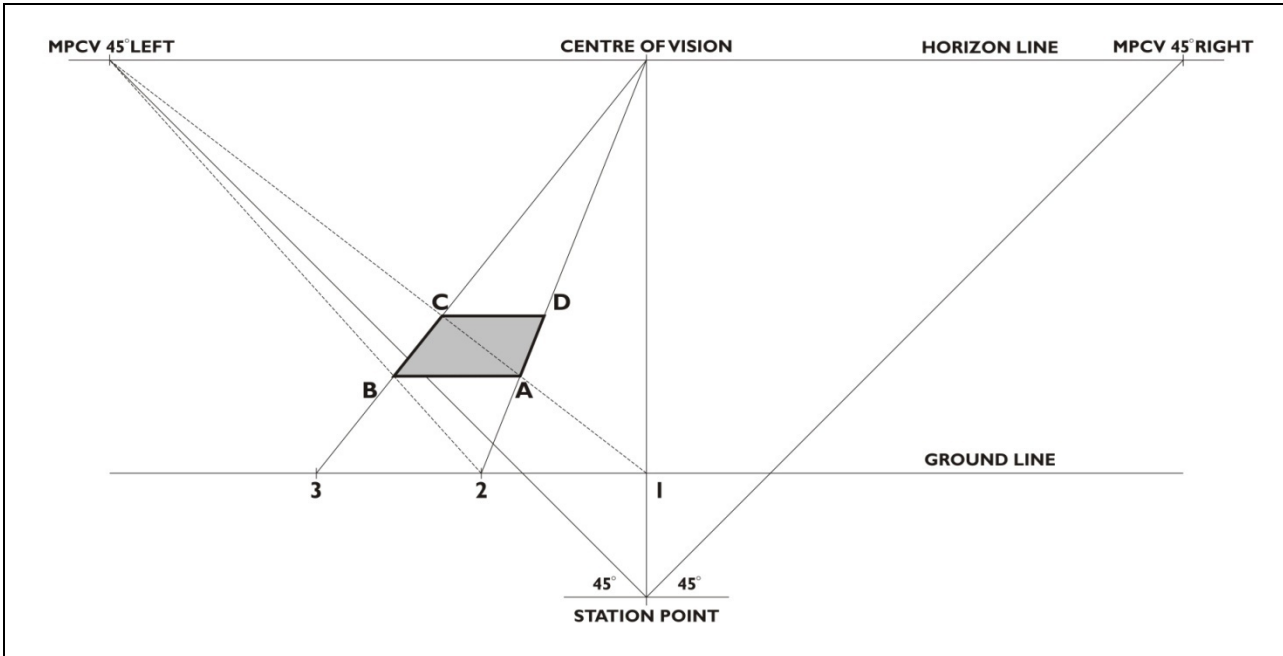

Figure 2.9 One-point perspective drawing of a square behind the Picture Plane
1. Measure from point 1 40 mm to establish the square behind the Picture Plane. From point 2 measure a further 40mm to establish the width of the square, point 3. Refer to Figure 2.9.